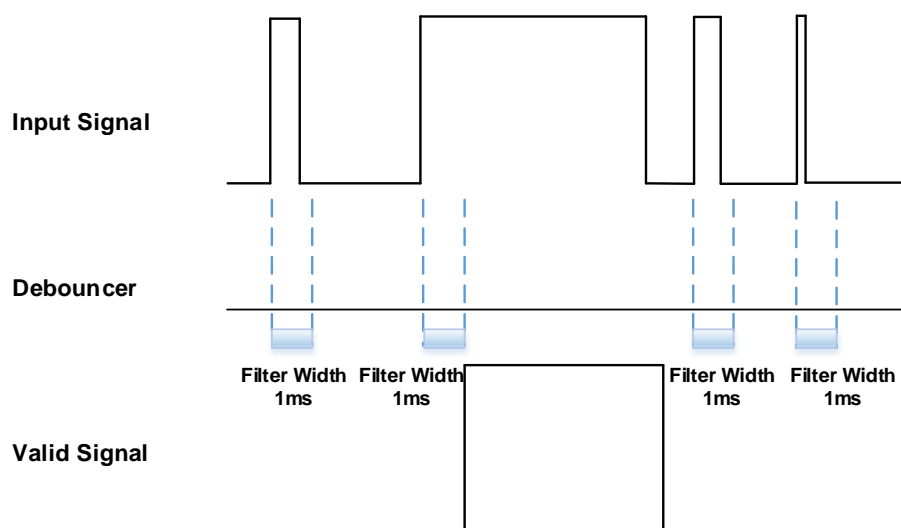

Figure 8-1 Input debouncer schematic diagram
**Example 1:** Setting the rising edge filter width to 1ms, the pulse width less than 1ms in the rising edge will be filtered out, as shown in Figure 8-1: